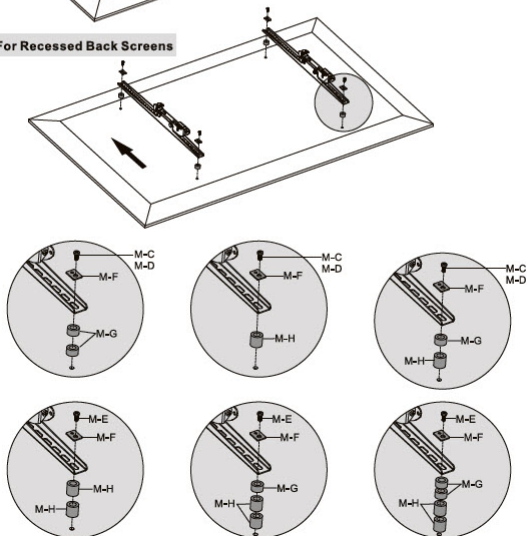

Figure 12
1. Place one **TV** on a flat, clean, and padded surface with the screen side down. (Figure 12)